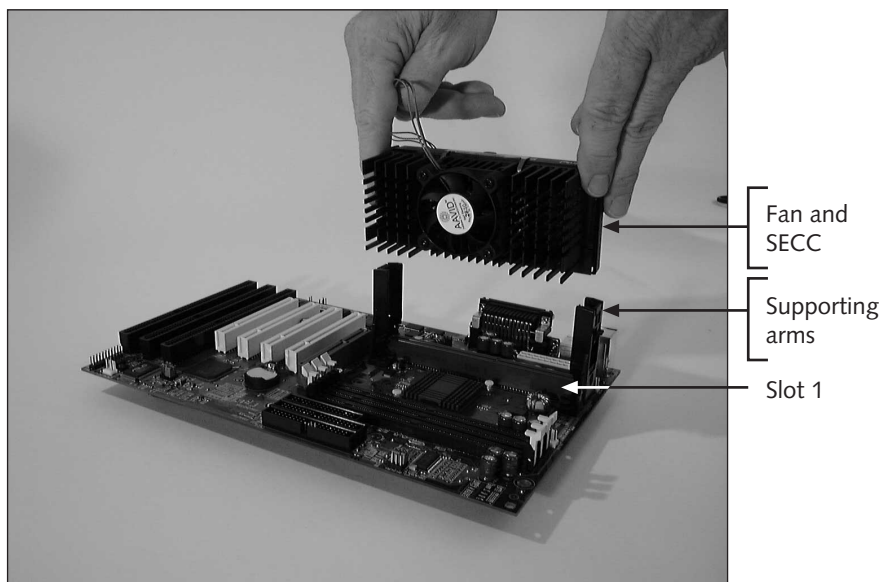

Figure 15-9 Insert the fan and SECC into the supporting arms and Slot 1
- Insert the fan and SECC into the supporting arms (Figure 15-9). The SECC should fit snugly into Slot 1, similarly to the way an expansion card settles down into an expansion slot. The arms should snap into position when the SECC is fully seated. Be certain you have a good fit here.